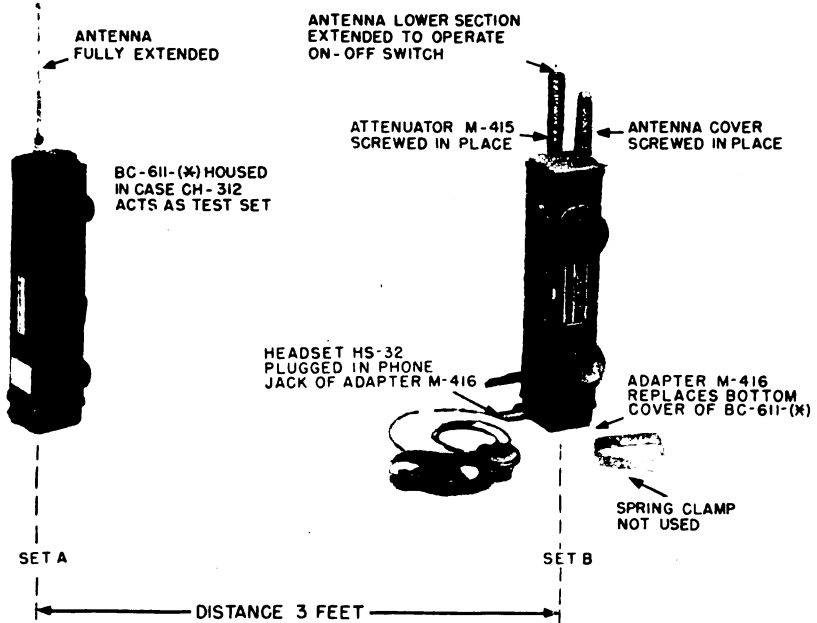

Figure 5. Preparation for tuning of transmitter circuits.
12. Tuning of Transmitter Circuits (Fig. 5)